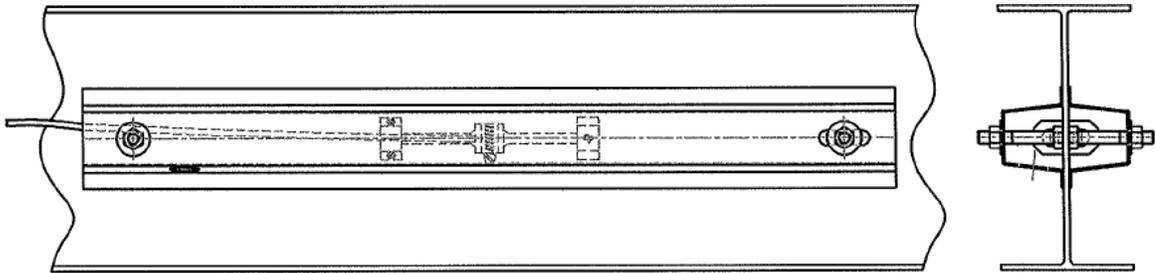

Figure 4 - Typical Cover Plate Installation
**3.3 Protection from mechanical damage** can be had by using the cover plates made by Geokon. (See Figure 4) Two 3/8 x 2 inch long hex-head bolts which will hold the cover plates should be welded in place hex-head down. The special cover plates are made from sheet steel formed into a channel shape. To get the correct spacing for the bolts a spacer jig is available or the cover plate can be flipped over on its back and the holes in the cover plate used to mark the bolt locations. The holes are spaced at a nominal 21 inches (530mm) apart: one hole is slotted so that the spacing is not critical. Studs should not be positioned within 6 inches of the strain gage and excessive force should not be used when tightening the cover retaining nuts as this will distort the underlying steel surface and can give rise to spurious strain readings. Also avoid welding anywhere near the gage as this also will cause large local distortions of the metal. Either a special stud welder or an arc welder can be used to weld